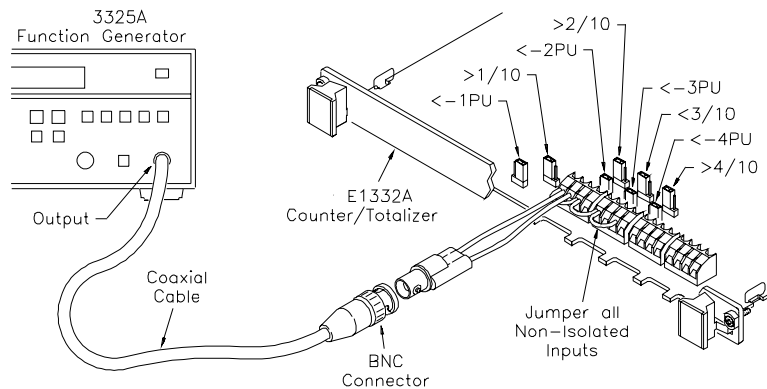

Figure 4-2. Non-Isolated Inputs Test Setup
1. Connect the equipment as shown in Figure 4-2.